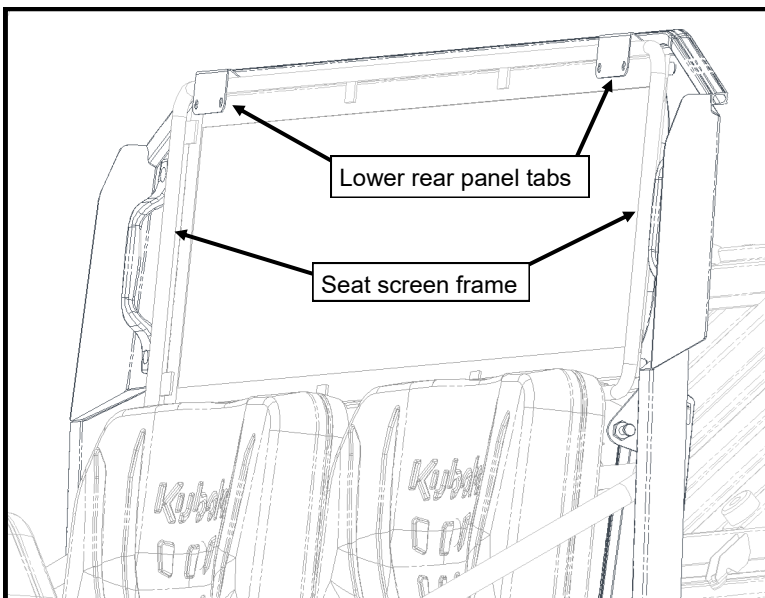
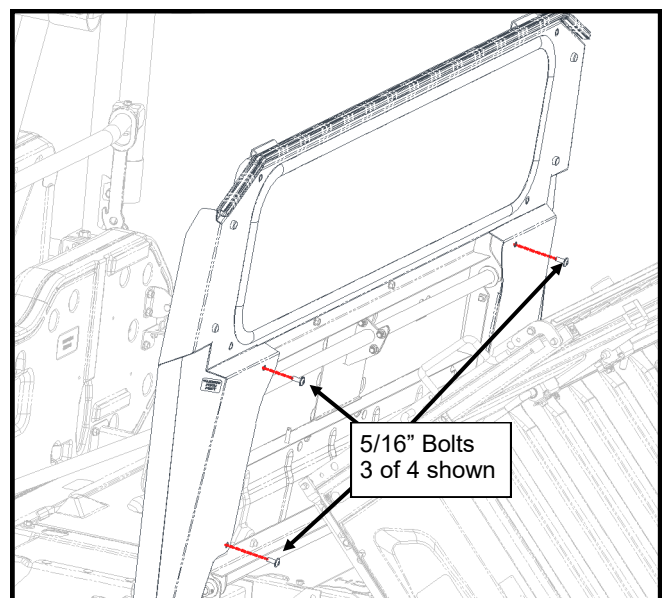

Figure 4.1: Lower Rear Panel onto Seat Screen
Figure 4.2: Lower Rear Panel onto Seat Screen
- 4.3 Place the lower rear panel onto the seat back, with the tabs at the top of the panel hooked over the seat screen frame (see Figure 4.1). Align the holes in the panel to the threaded inserts in the rear panel mounts and secure the panel with (4) 5/16-18 x 3/4" bolts (see Figure 4.2). Center the lower rear panel on the rear seat back and tighten the bolts snug.